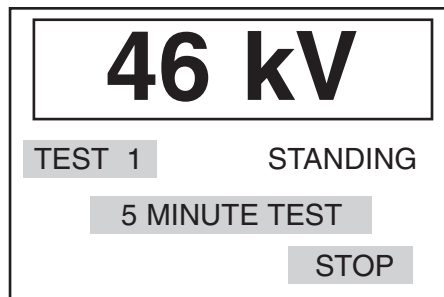
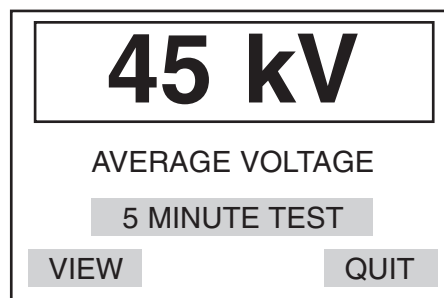
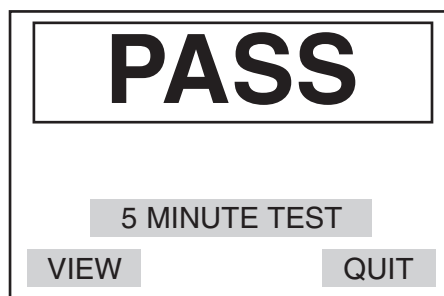

Figure 8 Example Intermediate stand time screen
Figure 9 Example Average breakdown voltage screen
Figure 10 Example Pass screen
- When stirring has finished the test set begins its oil sample intermediate standing period which lasts for 30 s. Again the time remaining for standing is shown alternately with the words 'STANDING' and the breakdown voltage is still retained on the display. The display screen appears as in figure 8.
- When step (4) is finished the test voltage then begins to rise again as in step (2) above, this time for 'TEST 2', and the cycle of events repeats.
- Steps (3), (4) and (5) are repeated so that the test voltage is applied for a third time. After the test voltage has been cut off on the third test, the display screen shows the average breakdown voltage value from the three tests in the sequence. The display screen appears as in figure 9, or figure 10 if the PASS/FAIL option has been enabled.
4. When stirring has finished the test set begins its oil sample intermediate standing period which lasts for 1 minute. Again the time remaining for standing is shown alternately with the words 'STANDING' and the previous breakdown voltage is still retained on the display. The display screen appears similar to that in figure 8.
5. The test voltage then begins to rise again as in step (2) above, this time for 'TEST 2', and the cycle of events repeats.
6. For these specifications there are 6 consecutive tests. After the test voltage has been cut off on the last test, the display screen shows the average breakdown voltage value from the 6 tests in the sequence. The display screen appears similar to that in figure 9 or figure 10 if the PASS/FAIL option is enabled. The BS 148 test includes the recommended pass limit and shows pass or fail as well as the actual average breakdown voltage.
3. When breakdown occurs (or if the maximum voltage is reached) the test voltage is cut off, the 'kV' warning light goes out and the test set begins its oil sample intermediate stand period of 1 minute. There is no stirring period. The display screen appears similar to that in figure 8.
4. When the intermediate stand time has finished the test voltage begins to rise again as in step (2) above, this time for 'TEST 2', and the cycle of events repeats.
5. For this specification there are 5 consecutive tests. After the test voltage has been cut off on the last test, the display screen shows the average breakdown voltage value from the 5 tests in the sequence. The display screen appears similar to that in figure 9 or figure 10 if the PASS/FAIL option is enabled.
3. When breakdown occurs (or if the maximum voltage is reached) the test voltage is cut off, the 'kV' warning light goes out and the test set begins its oil sample intermediate stand period of 1 minute. The display screen appears similar to that in figure 8.